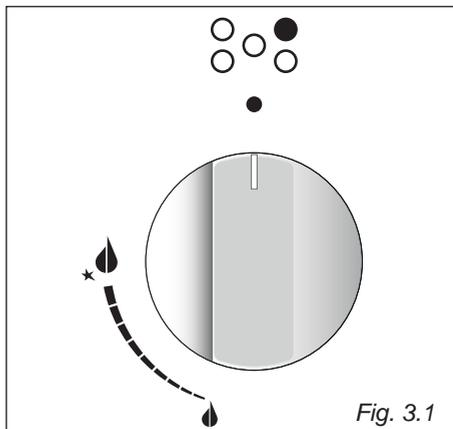
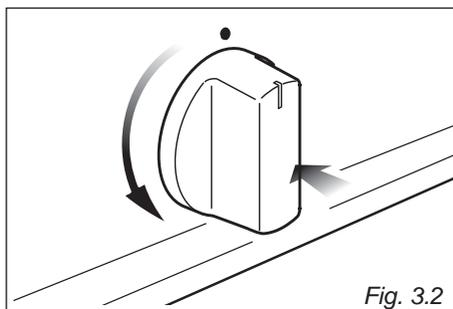

Fig. 3.1
Fig. 3.2
- Unhook the terminal board cover by inserting a screwdriver into the two hooks "A" (fig. 3.2).
Gas flow to the burners is adjusted by turning the knobs (illustrated in fig. 3.1) which control the safety valves. Turning the knob, so that the indicator line points to the symbols printed on the panel, achieves the following functions:
1. Press in the corresponding knob and turn counter-clockwise (fig. 3.2) to the full flame position marked by the  symbol (fig. 3.1); hold the knob in until the flame has been lit.